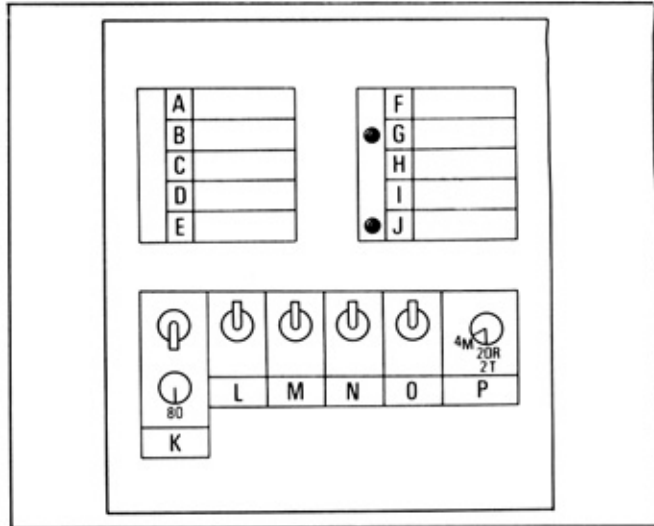
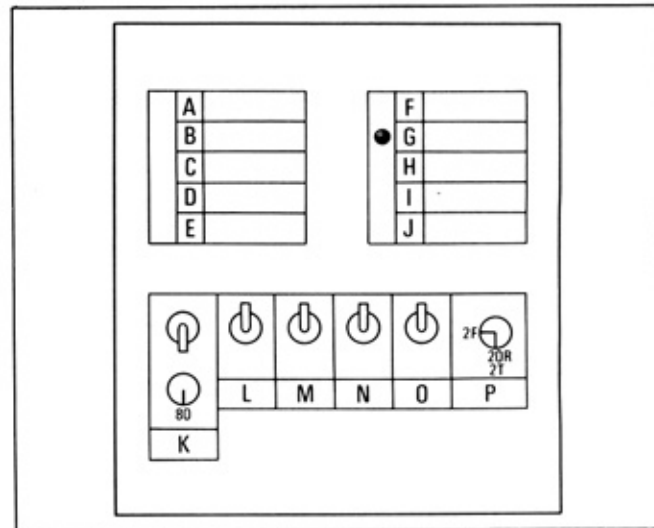

Fig. 18-130 2T-C and 4M Engines
Fig. 18-131 20R and 2F Engines
9. Turn the dial "K" and set the speed to 80 mph. The checker lights should turn on as shown in Fig. 18-130 and Fig. 18-131.